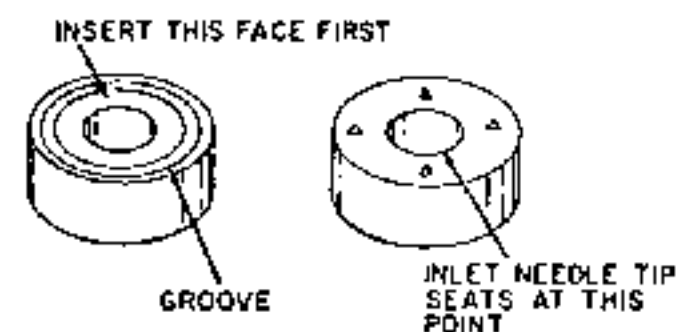

Fig. T2—The Viton seat used on some Tecumseh carburetors must be installed correctly to operate properly. All metal needle is used with seat shown.
When overhauling, check adjusting needles for excessive wear or other damage. Inlet fuel needle (22) seats against a Viton rubber seat (21) which is pressed into carburetor body. Remove rubber seat before cleaning carburetor in a commercial cleaning solvent. The seat should be installed grooved side first. See Fig. T2.